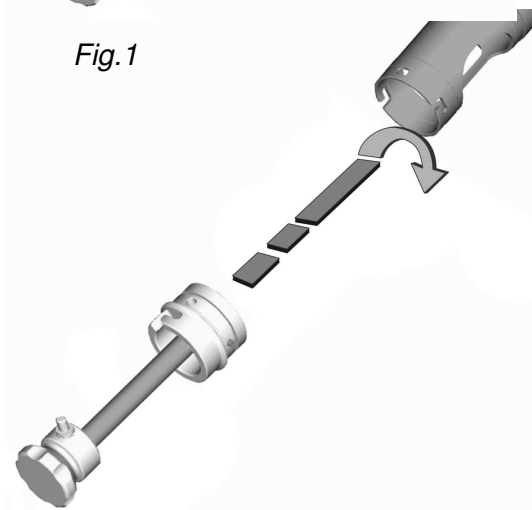

Fig.2
- Insert the piston in the machine tap duct and turn the bottom by a few degrees up to the block position (fig. 2).